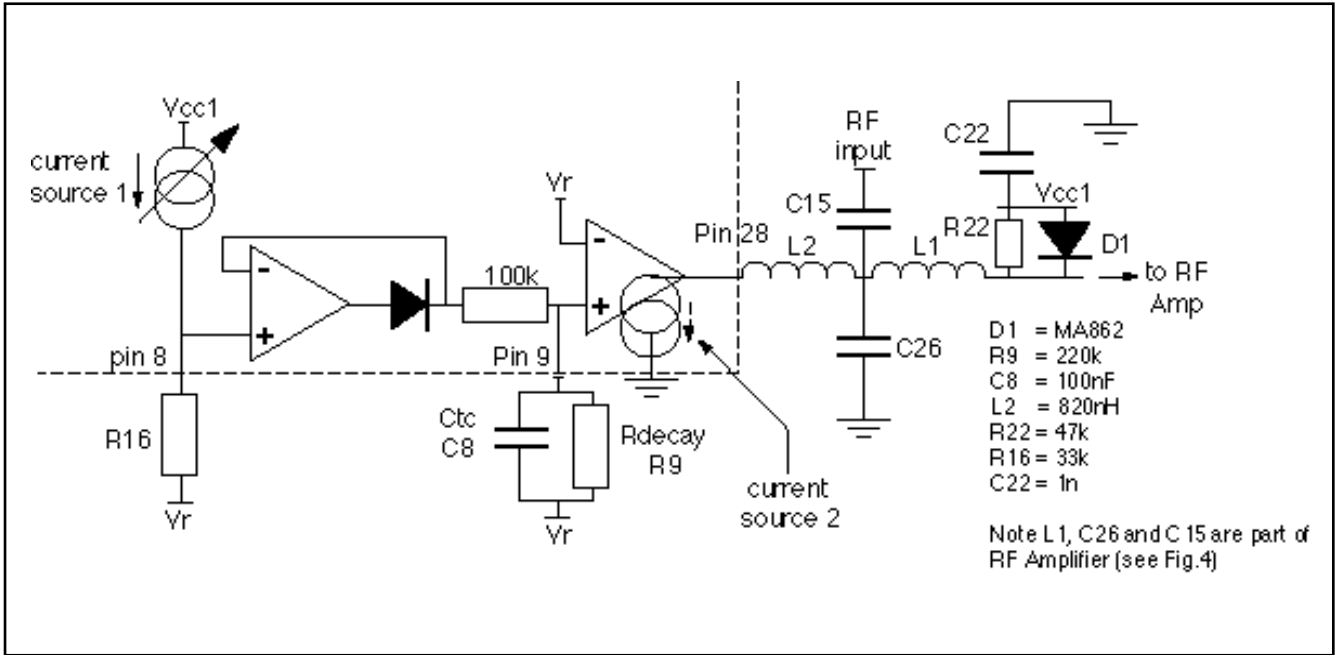

Fig.6 AGC Schematic
4. L2 is used in the Audio AGC circuit (see Fig.6). For the characteristics of the Audio AGC current source see figure 7. If the Audio AGC is not required then the current source (Pin 28) may be disabled by connecting